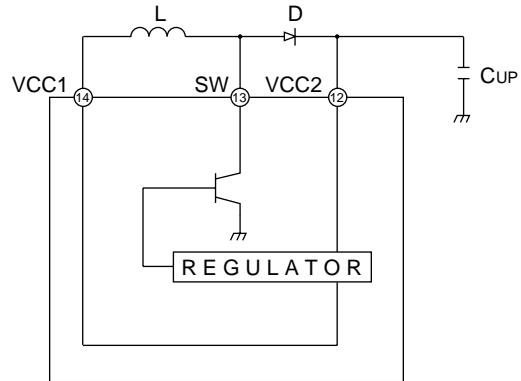

Fig. 15
By using the circuit shown in Fig. 15, this IC generates a voltage 6.5V (typ.) higher than the VCC1 input voltage at the VCC2 pin. This circuit allows the IC to drive MOSFET gates directly. With this circuit, the IC can drive a low-level side N-channel MOSFET at 3.6 to 18V as VCC1 (not possible with conventional ICs). In addition, an N-channel MOSFET can be used on the high-level side of a buck chopper. In Fig. 15, the inductor (L) is about 100 $\mu$ H or more and the capacitor (Cup) should be greater than about 0.1 $\mu$ F.